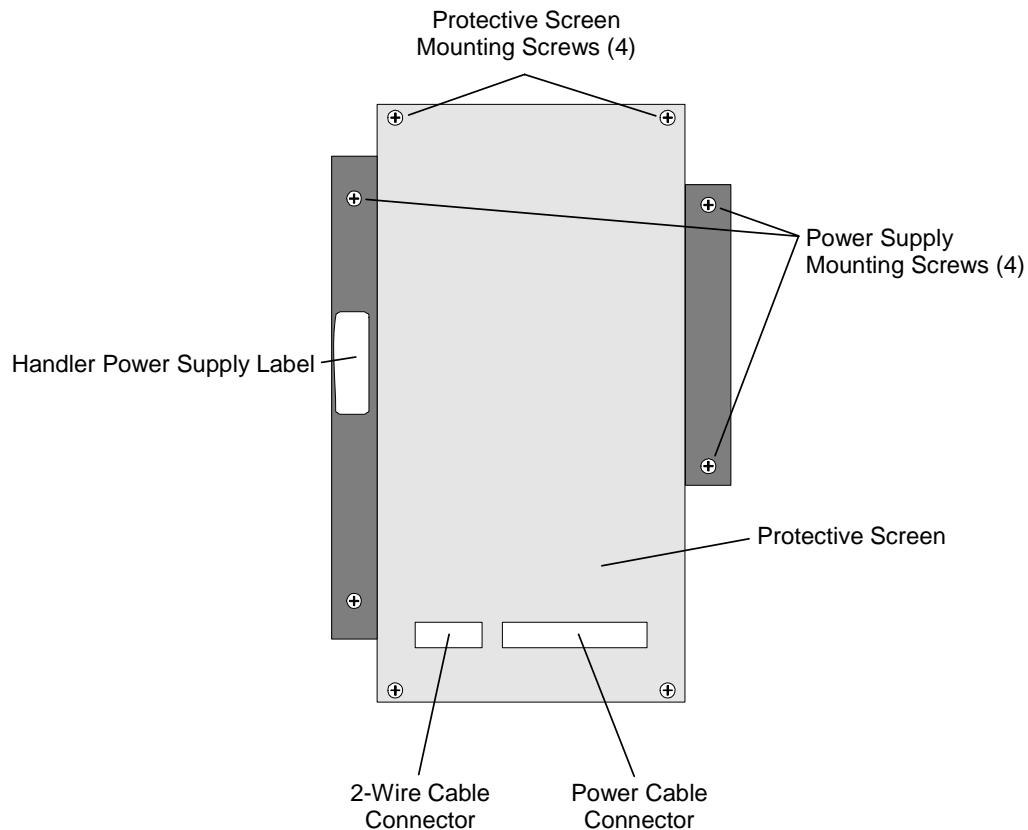
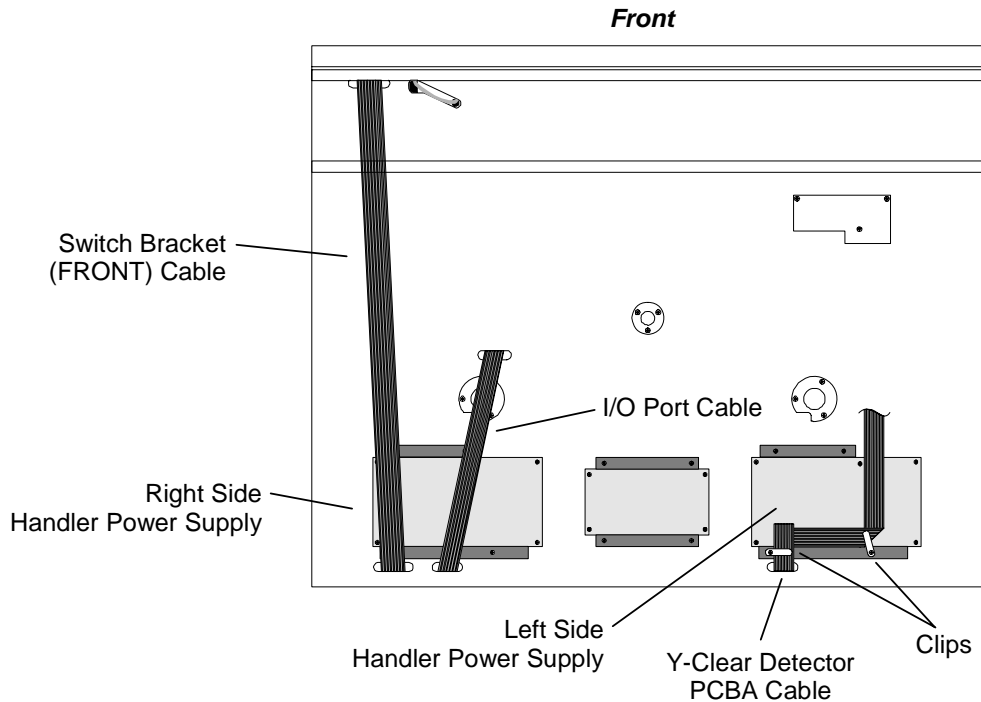
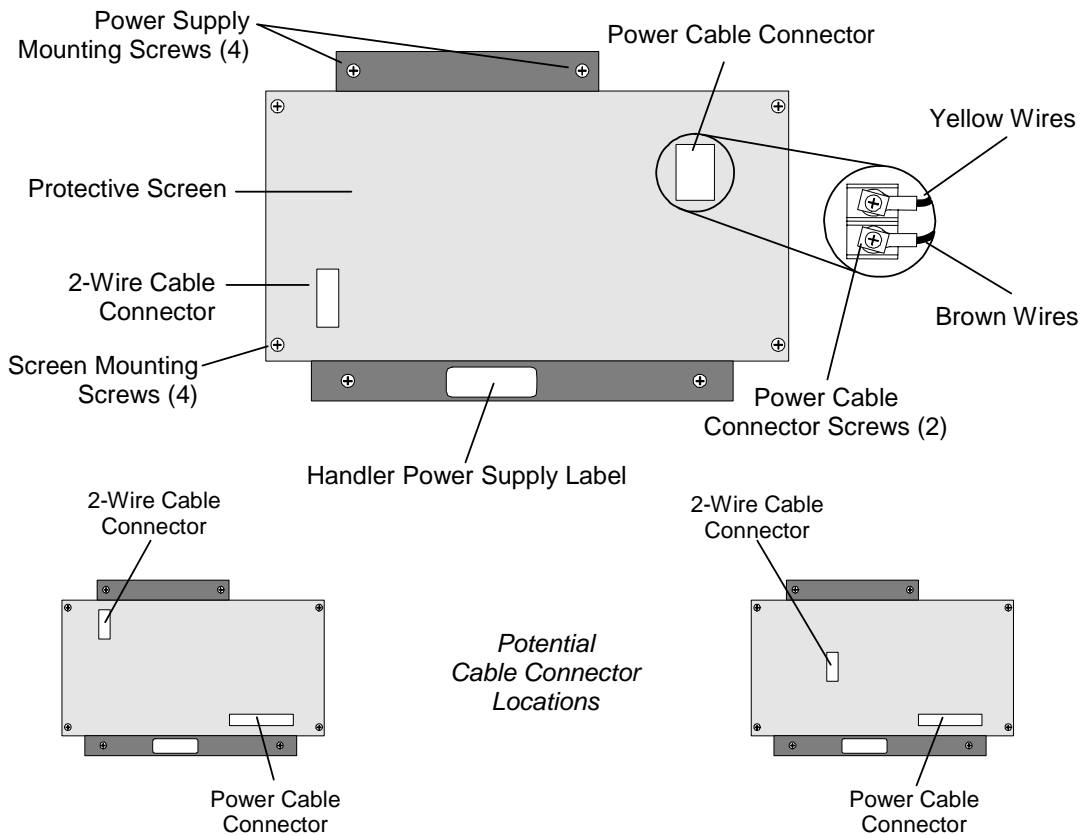

Figure 7-33 The Handler Power Supply - 6110 and 8111 Models
Figure 7-37 Top View of Handler Power Supplies (As seen from the rear of the TLS)
Figure 7-38 Handler Power Supply (Top View, as seen from the rear of the TLS)
To determine which model of Handler Power Supply is installed in the library, remove the top and right side panels then read the Handler Power Supply Label located on the power supply. See Figure 7-33, Figure 7-35 or Figure 7-38. The label will read 500826-xx-x. Make sure that the replacement power supply has the same part number (or its equivalent) as the one that is to be removed.
To determine which model of Handler Power Supply is installed in the library, remove the top and right side panels then read the Handler Power Supply Label located on the power supply. See Figure 7-33. The label will read 500826-xx-x. Make sure that the replacement power supply has the same part number (or its equivalent) as the one that is to be removed.
4. Remove all four protective Screen mounting screws (Figure 7-33).
5. Disconnect the Power Cable and the 2-Wire Cable connectors from the Power Supply PCBA (Figure 7-33).
6. Remove all four Power Supply mounting screws (Figure 7-33).
2. Install all four Power Supply mounting screws (Figure 7-33).
3. Reconnect the Power Cable and 2-Wire Cable connectors to the Power Supply PCBA (Figure 7-33).
4. Place the protective Screen on top of the Power Supply and install all four Screen mounting screws (Figure 7-33).
To determine which model of Handler power supply is installed in the library, remove the top and/or right side panels then read the Handler Power Supply Label located on the power supply. See Figure 7-38. The label will read 500826-xx-x. Make sure that the replacement power supply has the same part number (or its equivalent) as the one that is to be removed.
3. This step only applies when removing the right side Handler Power Supply. Use a number 2 Phillips screwdriver to remove all six Rear Service Panel mounting screws (Figure 7-37), then remove the Rear Service Panel on the left side of the TLS when viewed from the rear.
5. This step only applies when removing the left side Handler Power Supply. Use a number 2 Phillips screwdriver to loosen the two screws attached to the clips holding the Y-Clear Detector Cable in place on top of the TLS. Move the cable out of the way of the power supply. See (Figure 7-37).
6. Remove all four Protective Screen mounting screws, then lift the Protective Screen off of the TLS (Figure 7-38).
7. Disconnect the Power Cable and 2-Wire Cable connector from the Power Supply PCBA (Figure 7-38). For 500826-05-2 models only use a Phillips or flat screwdriver to remove the two power cable ring lug screws and lift the wires clear of the Power Cable connector's terminals.
8. Remove all four power supply mounting screws (Figure 7-38). When removing the left side screws, take care not to lose the cable clips.
Make sure that the Power Supply is turned so that the connectors on its PCBA are facing in the lower left and upper right corners, as seen from the back of the TLS (Figure 7-38).
2. Install all four Power Supply mounting screws (Figure 7-38). When installing the left side screws make sure that the cable clips are replaced as shown in Figure 7-37.
3. Reconnect the Power Cable and the 2-Wire Cable connector to the Power Supply PCBA (Figure 7-38). For 500826-05-2 models only position the power cable ring lugs wires over the terminals with the yellow wires at the top position and the brown wires at the bottom. Use a Phillips or flat screwdriver to replace the two screws removed earlier.
4. Place the protective Screen on top of the Power Supply, then install all four Screen mounting screws (Figure 7-38). Make sure that neither power cable is pinched by the Screen.
6. This step only applies if the right side Handler Power Supply was removed. Place the Rear Service Panel onto the TLS, then use a number 2 Phillips screwdriver to reinstall all six Rear Service Panel mounting screws (Figure 7-37).
7. This step only applies if the left side Handler Power Supply was removed. Position the Y-clear detector cable as seen in Figure 7-37 and slide it under the clips. If a clip is too tight use a number 2 Phillips screwdriver to loosen the screw attached to the clip and retighten it after the cable is in place.